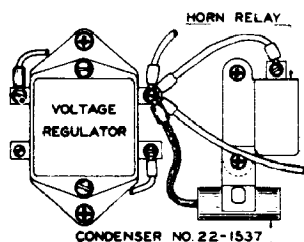

Fig. 4.
1. Remove the top mounting screw of the horn relay, near the voltage regulator, and under this screw mount the condenser No. 22-1537. Connect the lead to the voltage regulator battery terminal. (Fig. 4.)